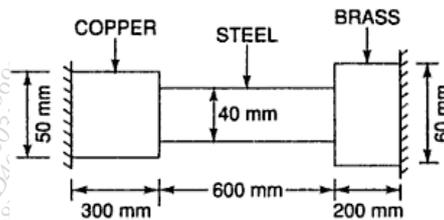

Figure 01
B) A composite bar made of copper, steel and brass is rigidly attached to the end supports as shown in figure 01. Determine the stresses in the three portions of the bar when the temperature of the composite system is raised by  $70^{\circ}\text{C}$  when